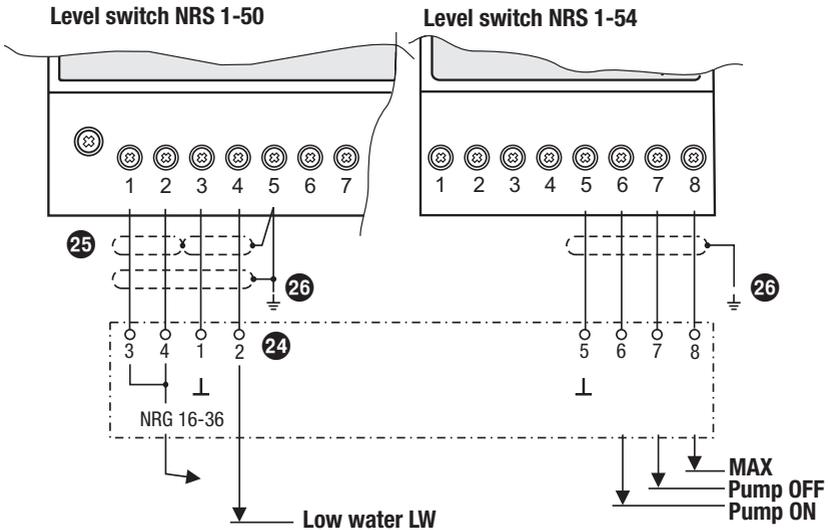

Fig. 8
Wire terminal strip in accordance with the wiring diagram. **Fig. 8.** Wire the screens to terminal 5 and the central earthing point (**CEP**) in the control cabinet.
3. Connect terminals according to the wiring diagram **Fig. 8** and **table "Functions" on page 10.**